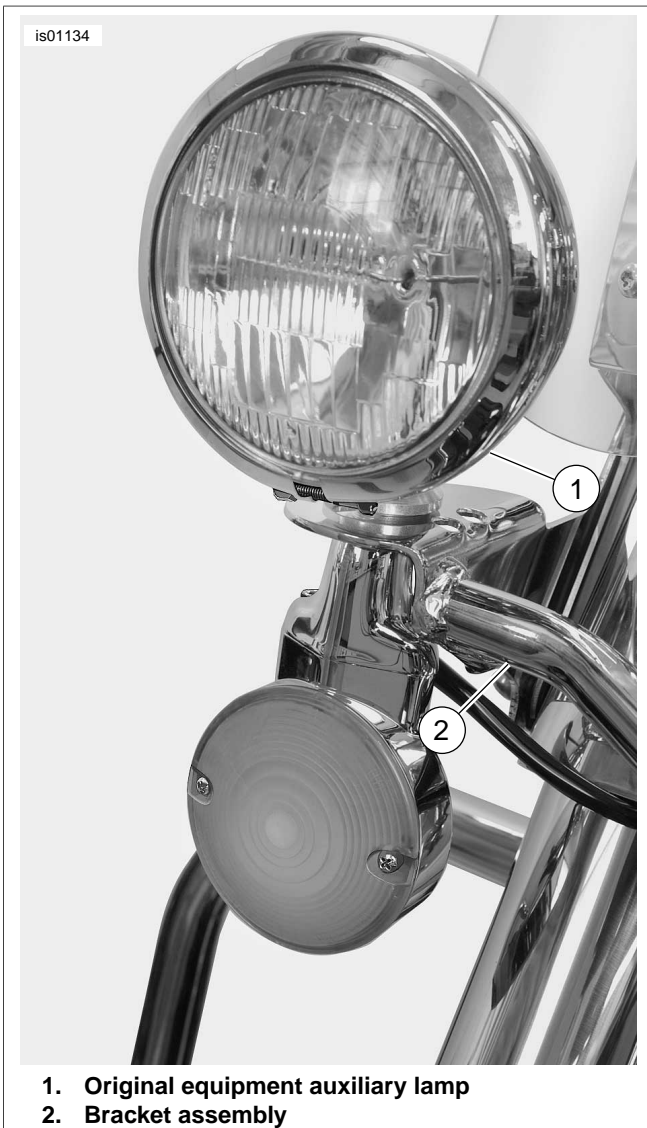

Figure 1. Original Equipment Auxiliary Lamp Assembly (Typical)
3. See Figure 1. Remove original equipment auxiliary lamp (1) and bracket assembly (2) if equipped. Refer to AUXILIARY LAMPS in Service Manual. Save sealed beams, lens/bulb assemblies, and trim rings for kit installation.